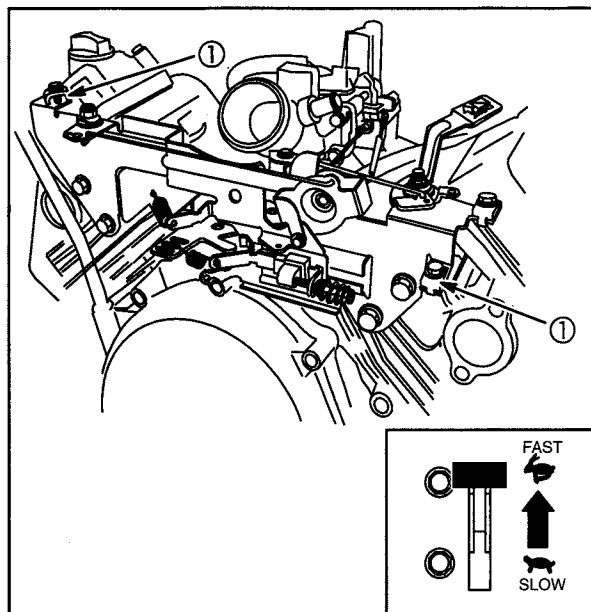

Fig. 48
1. Loosen control casing clamp screw (1) at governor control bracket, Fig. 48.
2. Move speed control lever to FAST position (inset, Fig. 48).